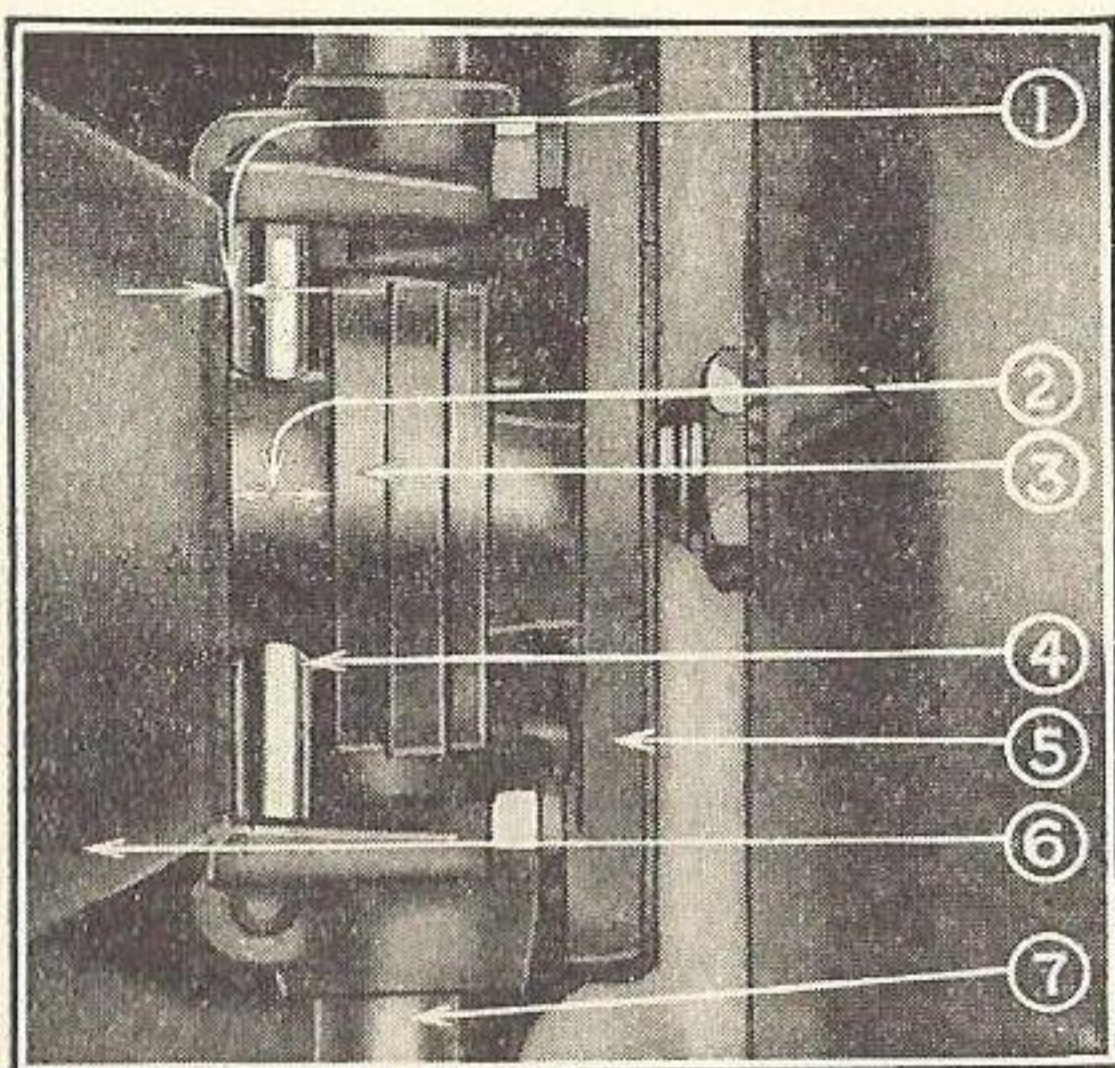
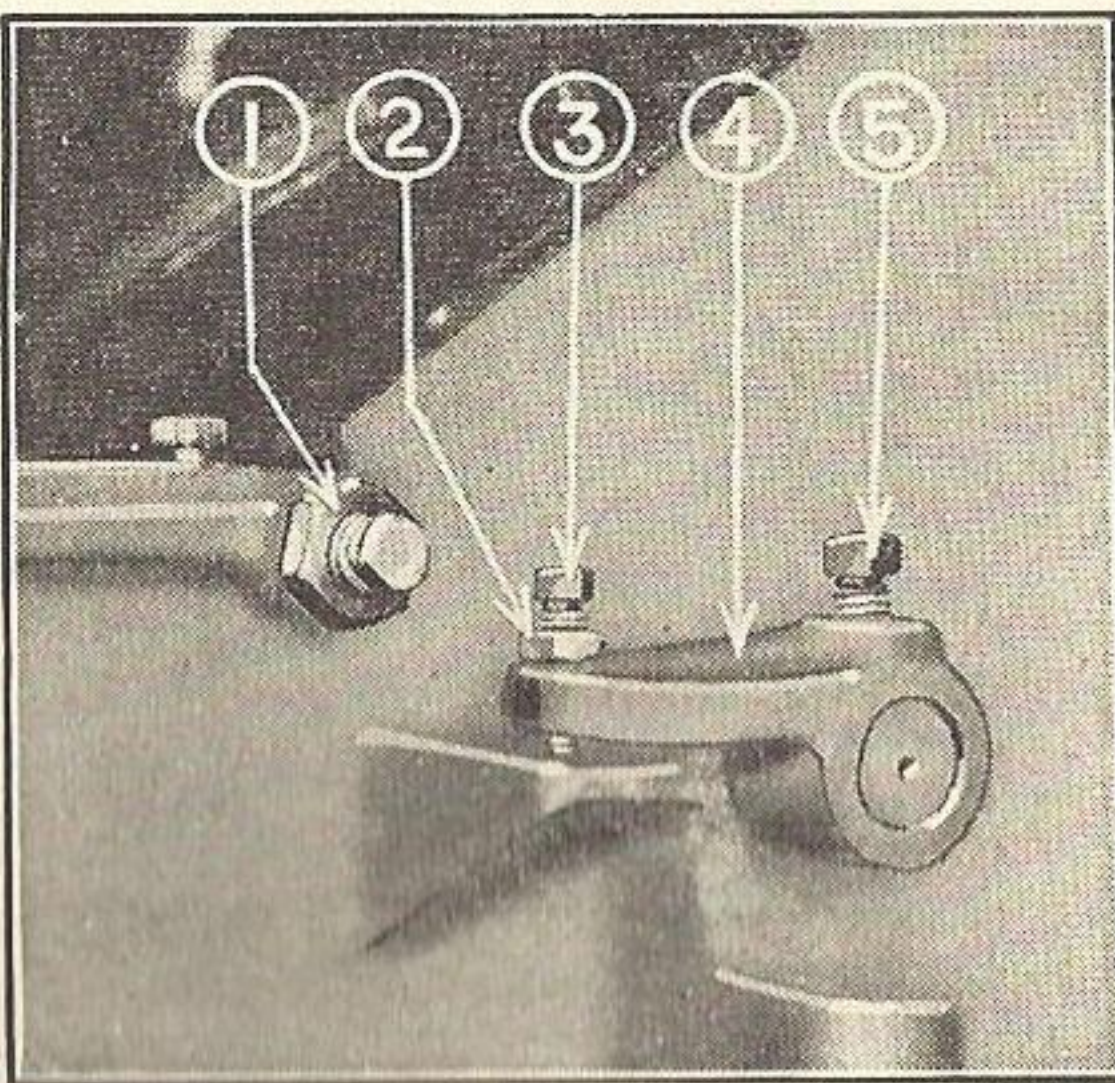

Fig. 32
Fig. 34
4. Measure the distance between the front edge of the release bearing and the clutch cover. Refer to Fig. 32. This distance should be $\frac{9}{16}$ ". If less than this, turn clutch cover still further to the right by following procedure in paragraph 2. If more than $\frac{9}{16}$ ", turn clutch cover slightly to the left.
6. Screw in or out on the throwout lever adjusting screw No. 3, Fig. 34 until the distance between front edge of the throwout lever pins and the clutch cover is $\frac{1}{16}$ ". Refer to Fig. 32. The throwout lever adjusting screw is on the right end of the throwout shaft as shown in Fig. 34.